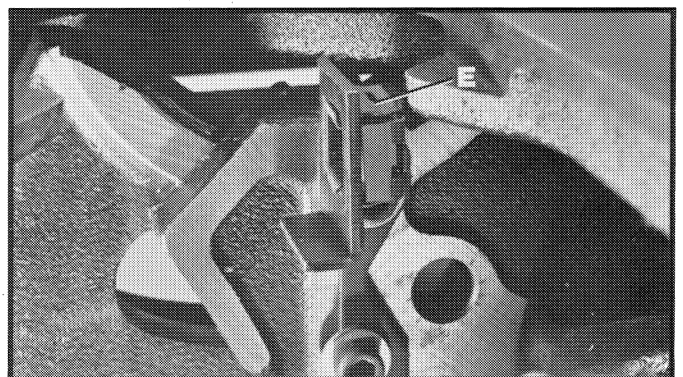

Fig. 4
7. Replace the encapsulated nut (E) Fig. 4, that was removed in **STEP 3**.